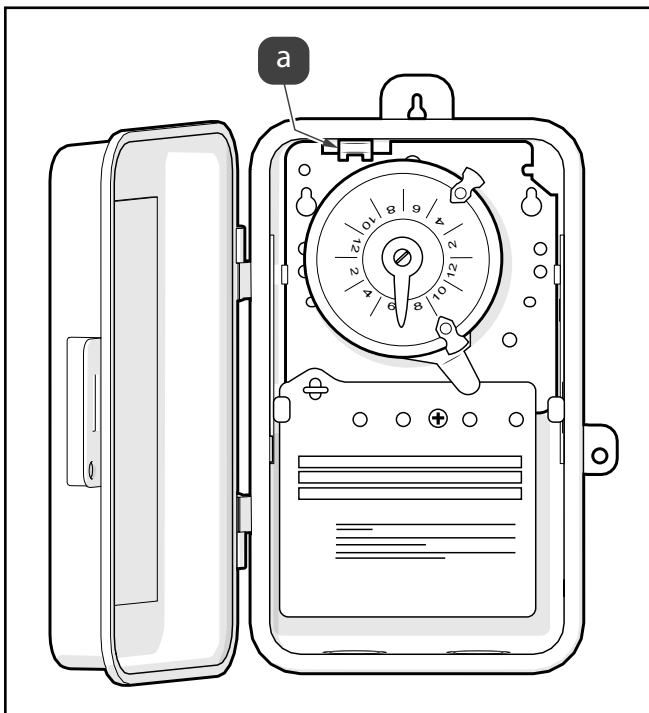

Figure 9. Remove Time Clock from Intermatic® Unit
3. Remove time clock by pressing mounting tab down and pulling out the clock assembly, see Figure 9 (a)